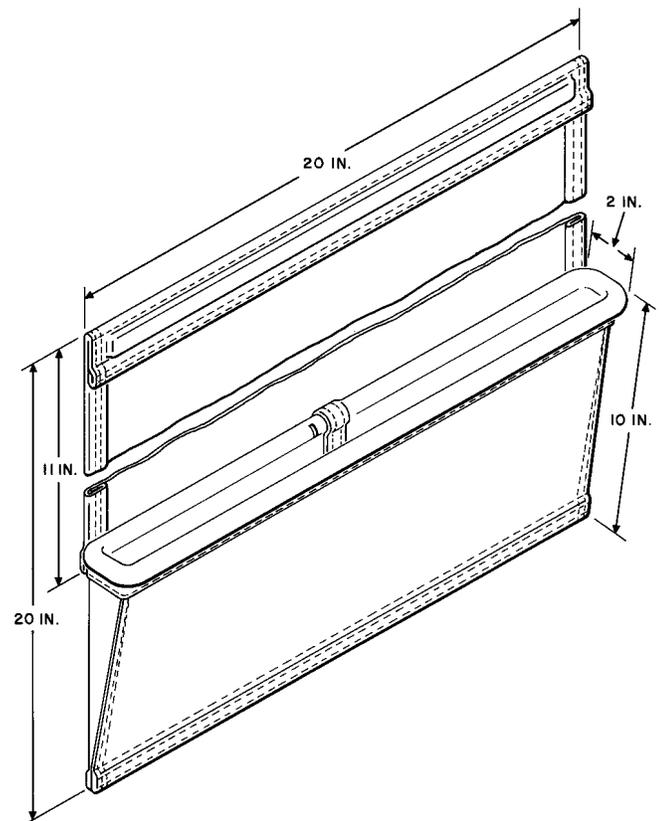

Fig. 1—769A Tool Distributing Frame Bag
1.02 The 769A Tool Distributing Frame Bag (Fig. 1) is made of nonflammable high temperature nylon that does not melt. However, it will char at temperatures over 700°F. It is approximately 20 inches long, has a 10-inch deep rectangular pocket, and has a 10-inch wide flap which is weighted at the free end with a metal bar enclosed in two layers of material to prevent it from becoming exposed. The mouth of the pocket is stiffened by the inclusion of a heavy cord to prevent closing while in use.